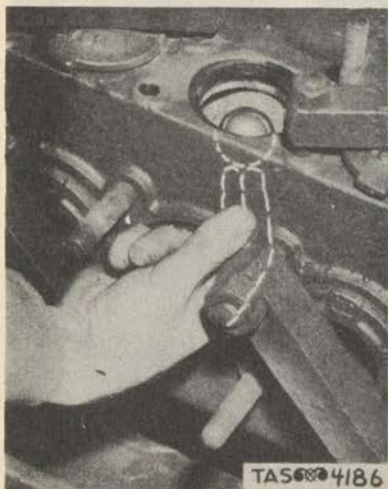

Figure 246. Lifting
(8) Insert the fingers through the side cylinder head openings and raise the upper balls. (Fig. 246)
(3) Remove the upper balls by inserting a finger in the side cylinder head and pushing the balls within reach from the top cylinder head. (Fig. 246)
(4) Insert the head of the valve seat puller all the way through the hole in the valve seat.